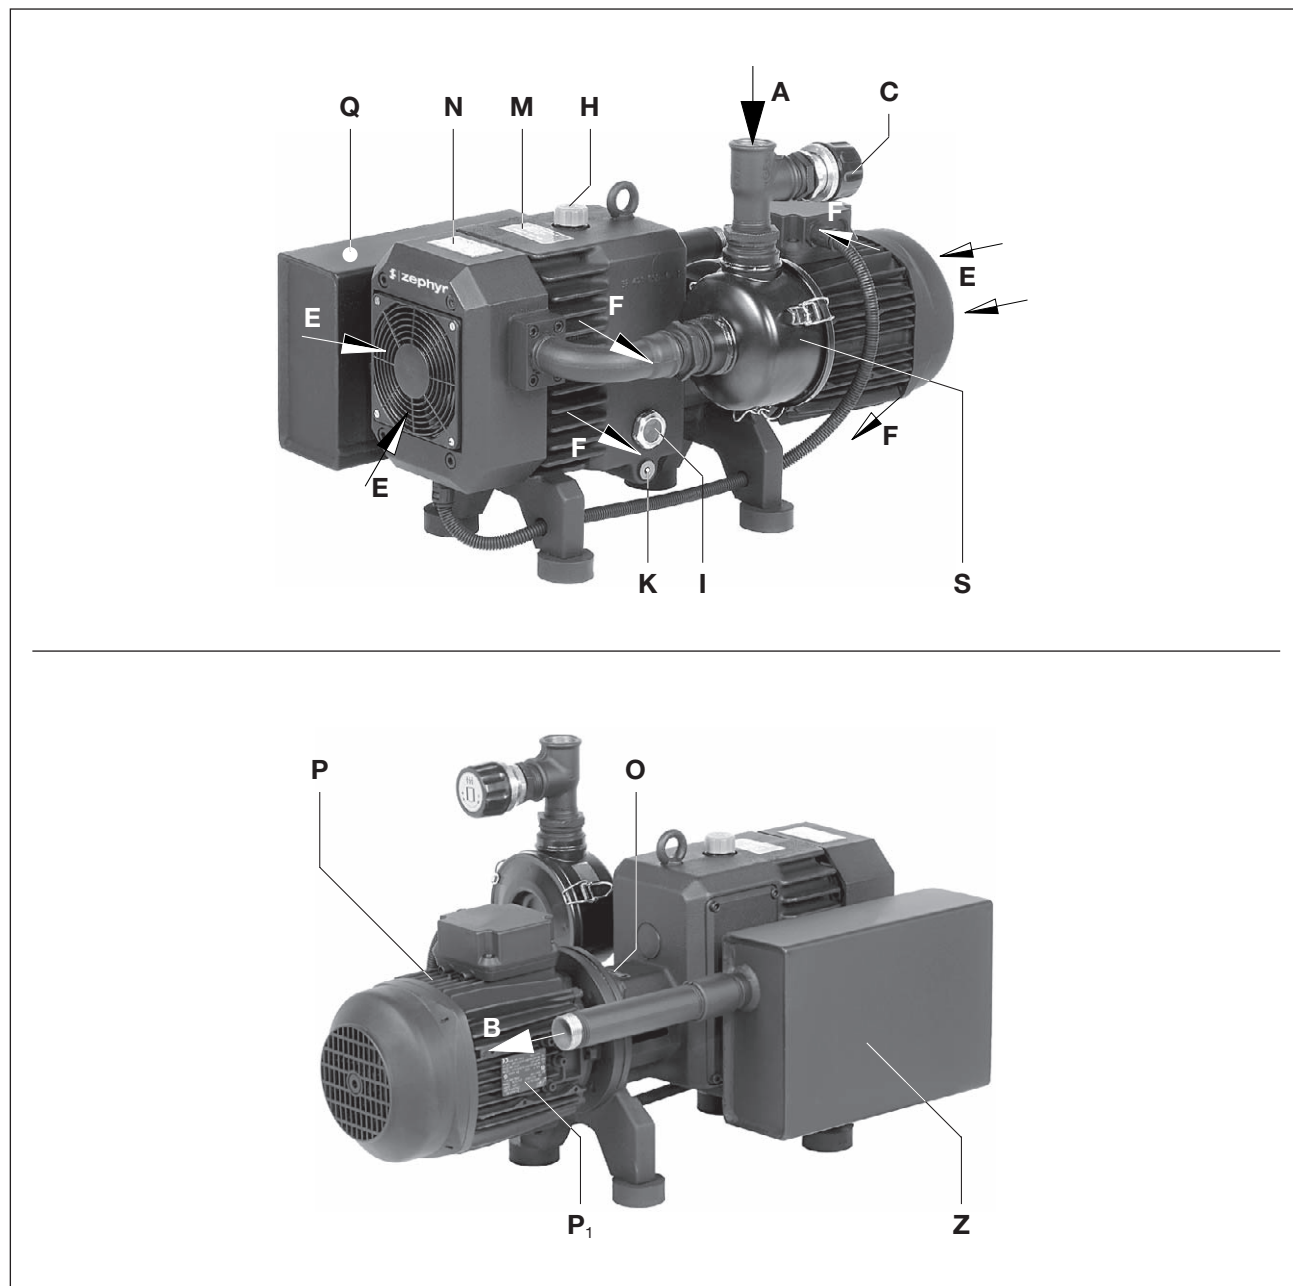

Fig. 2 Vacuum pump C-VLR 60
A vacuum regulating valve (Fig. 2/C) is used to set the vacuum to the required values.
The oil filling point (Fig. 2/H... 4/H), oil sight glasses (Fig. 2/I... 4/I) and oil outlets (Fig. 2/K... 4/K) must be easily accessible.
The cooling air inlets (Fig. 2/E... 4/E) and cooling air outlets (Fig. 2/F... 4/F) must be at least 30 cm from adjacent walls. Cooling air coming out must not be sucked in again.
For maintenance work there must be a minimum of 40 cm in front of the inlet filter (Fig. 2/S) and the inlet silencer (Fig. 3/S₁, 4/S₁)
- a) Vacuum connection at (Fig. 2/A... 4/A).
- b) The discharged air can be blown out through the exhaust silencer (ZSZ) at (Fig. 2/B... 4/B) or conducted away using a hose or a pipe.
The vacuum can be set by turning the control knob (Fig. 2/C... 4/C) as shown on the symbol fitted to the button.